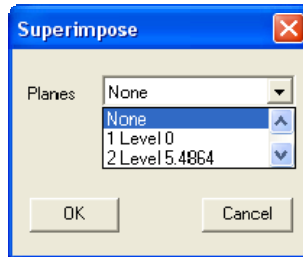

Figure 6-8 Superimpose dialog box
- From the Show menu, choose Superimpose. The dialog box of Figure 6-8 appears.